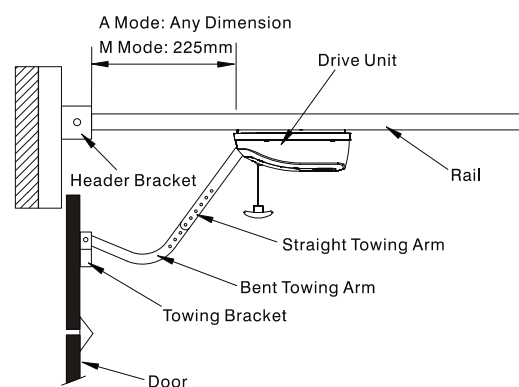

Fig. 9
- i. Adaptive mode ~ any distance from the end of the Drive Rail. (Fig.9)
- ii. Manual Mode ~ 225mm from the end of the rail to the front of the Drive Unit. (Fig.9)